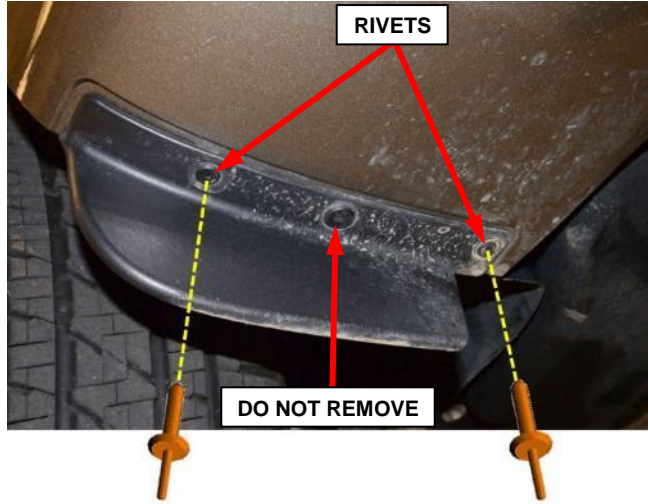

Figure 7 – Front Wheelhouse Rivets
- 12. **Latitude / Altitude / Limited / Overland:** Remove the **two outer rivets** securing the wheelhouse splash shield to the front fascia on both sides of the vehicle (Figure 7).